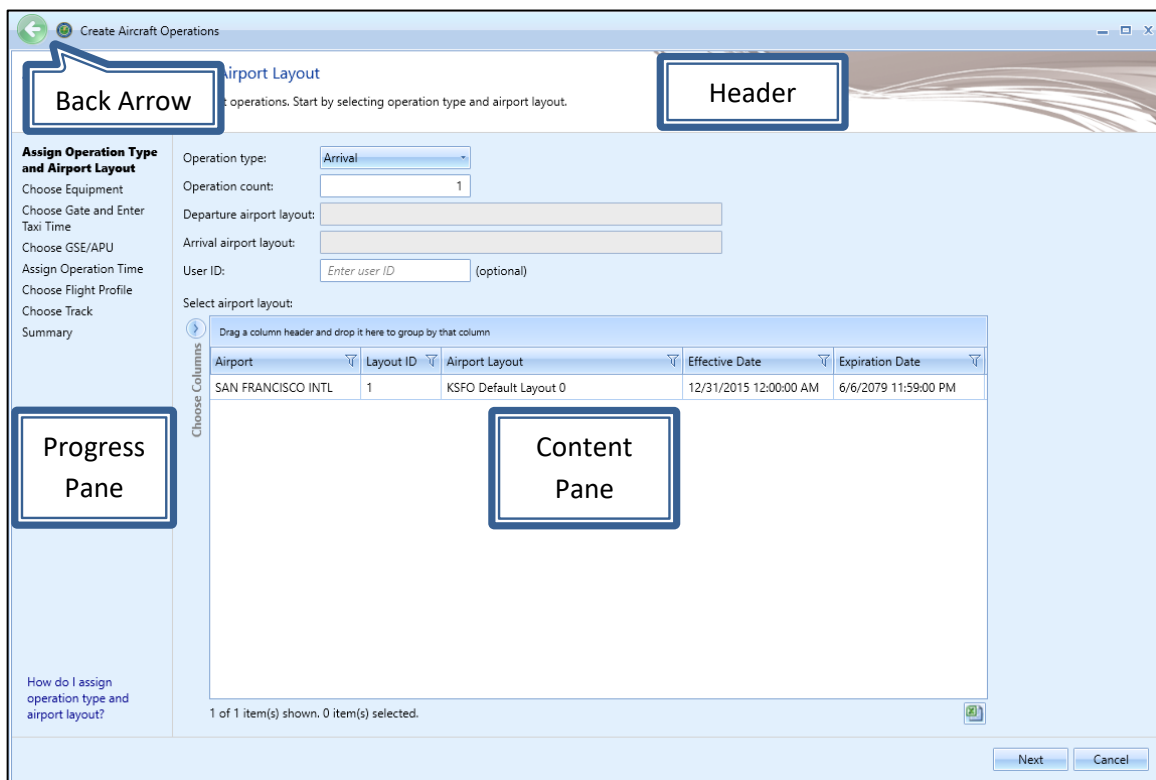

Figure 6-4 Create Aircraft Operations
2. In the *Aircraft Actions* ribbon group, click *New* to open the *Create Aircraft Operations* wizard (Figure 6-4).